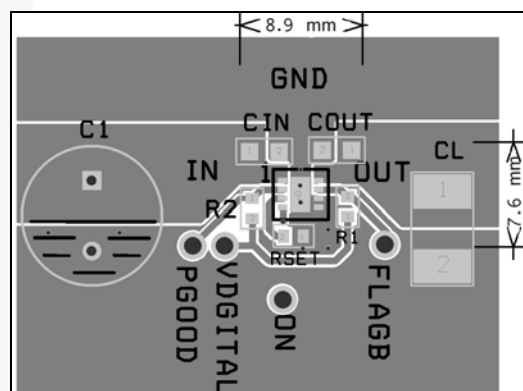
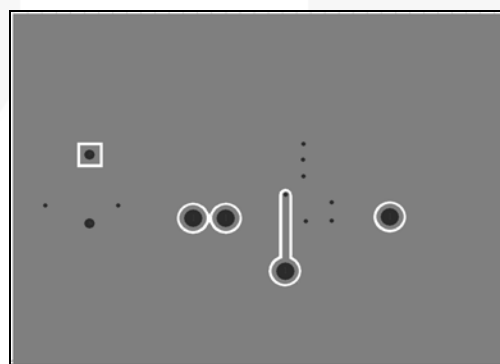

Figure 42. Proper Layout of Output and Ground Copper Area (Top, SST, and AST Layers)
Figure 43. Proper Layout (Bottom and ASB Layers)
For the best performance, all traces should be as short as possible. To be most effective, the input and output capacitors should be placed close to the device to minimize the effects that parasitic trace inductances may have on normal and short-circuit operation (Figure 42). Using wide traces for IN, OUT, and GND pins helps minimize parasitic electrical effects as well as the case-to-ambient thermal impedance.
3. The IN, OUT, and GND pins dissipate most of the heat generated during high-load current condition. The layout suggested in Figure 42 and Figure 43 is strongly recommended illustrating a proper layout for devices in MLP 3x3 packages. IN, OUT, and GND pins are connected to adequate copper so that heat may be transferred as efficiently as possible out of the device. The low-power FLAGB and ON pins traces may be laid-out diagonally from the device to maximize the area available to the ground pad. Place the input and output capacitors as close as possible to the device.